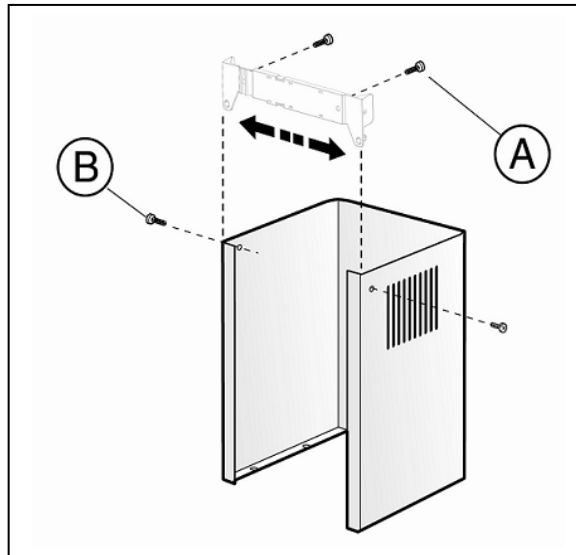

Fig 3
Step 3: To fix the two-piece chimney cowl, firstly ensure that the power supply has been placed within the dimensions of the flue cowl. Place the support bracket (A) for the upper section of the cowl on the wall at ceiling height (Fig 3). Ensure that the upper flue bracket is level and centred over the canopy. Fix bracket (A) firmly to the wall at the desired height.